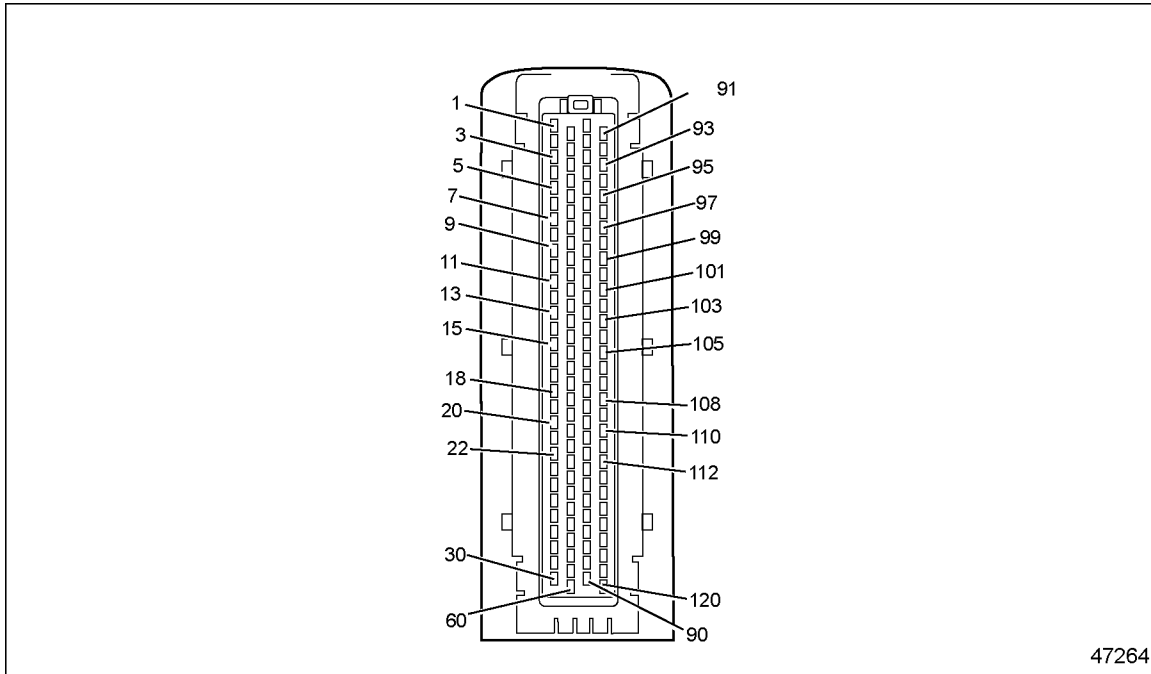

Figure 23-1 120-pin MCM Connector
- [a] If the voltage is less than 11.5 volts, repair the open between pin D of the 23-pin connector and pin 26 of the MCM 120-pin connector (see Figure 23-1). Refer to section 23.1.3.1.